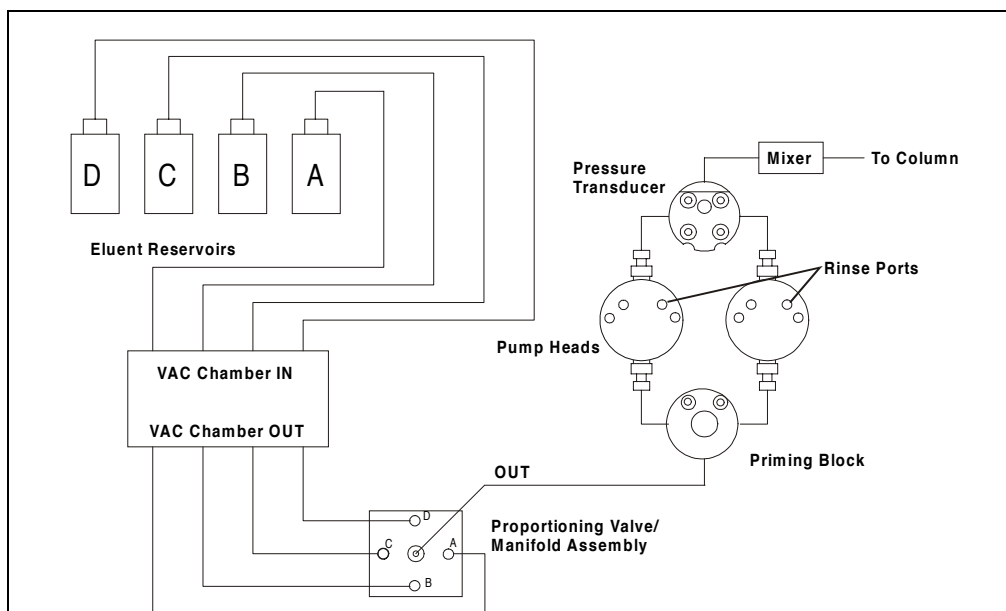

Figure 3-20. Eluent Flow Schematic
- Check the entire mechanical chassis for leaks from the rinse ports, the eluent manifold connections and valves, the vacuum degas chambers, and the eluent reservoirs (see Figure 3-20). Tighten or replace any leaking fittings. Wipe up liquid spills and rinse dried reagents off the pump components with deionized water.